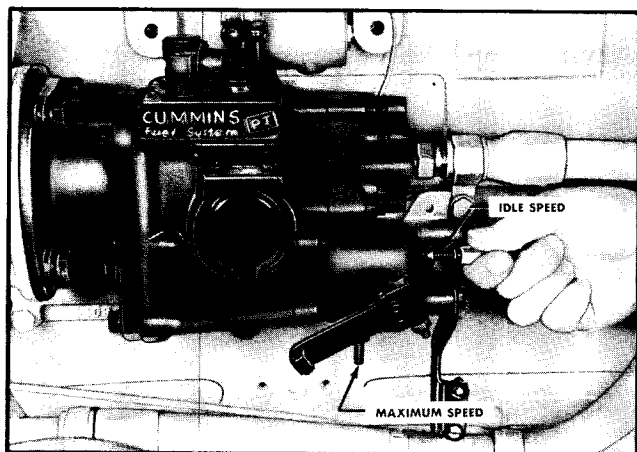

Fig. 4-32. Adjusting screws, variable speed governor
2. Screw adjusting screw "in" or "out" to get speeds required. Fig. 4-32.